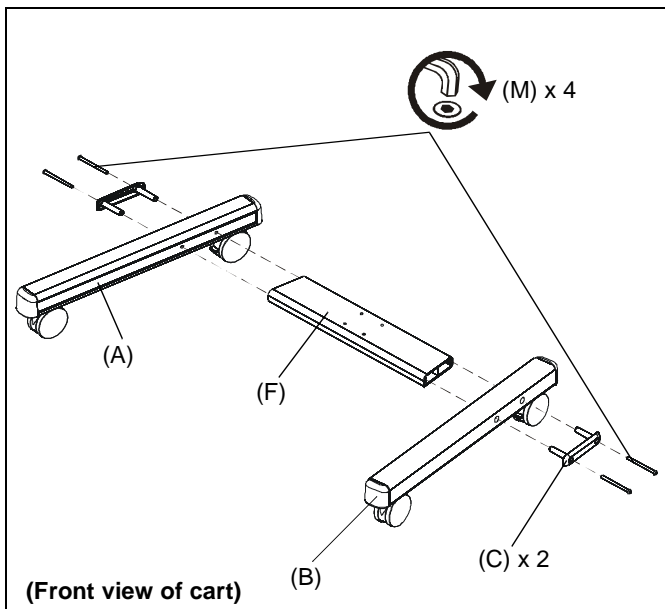

Figure 1
1. Assemble two legs (A) and (B) to the cart cross bracket (F) using two 5/16-18 x 4-1/4" button head cap screws (M) through one end cap (C) per leg. (See Figure 1)